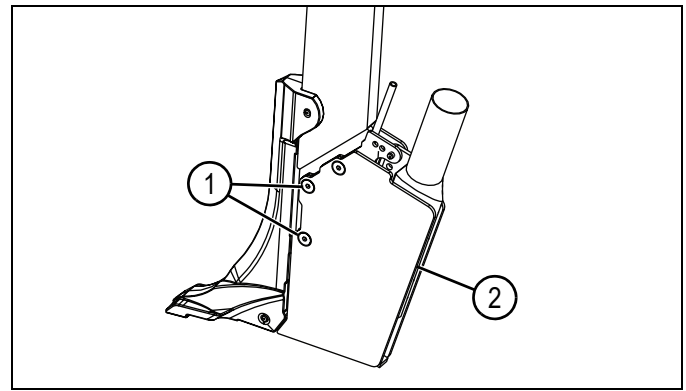

Figure 4-15
11. Install side plate and screws, see Figure 4-15.